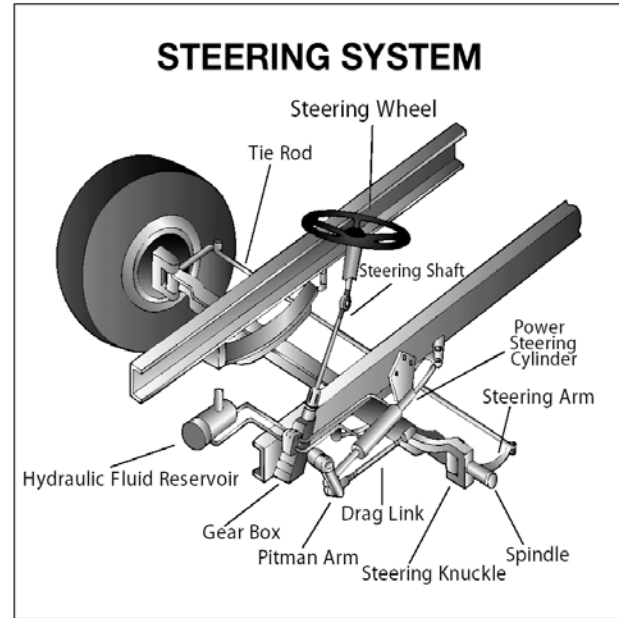

Figure 2.1
- Bent, loose, or broken parts, such as steering column, steering gear box, or tie rods. **See Figure 2.1.**
- Steering wheel play of more than 10 degrees (approximately two (2) inches movement at the rim of a 20-inch steering wheel) can make it hard to steer.